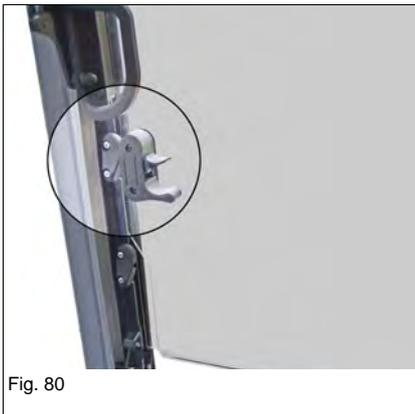

Fig. 80
- ▶ The lower front window must be fully open when the entire front window is opened or closed (*Fig. 80*).